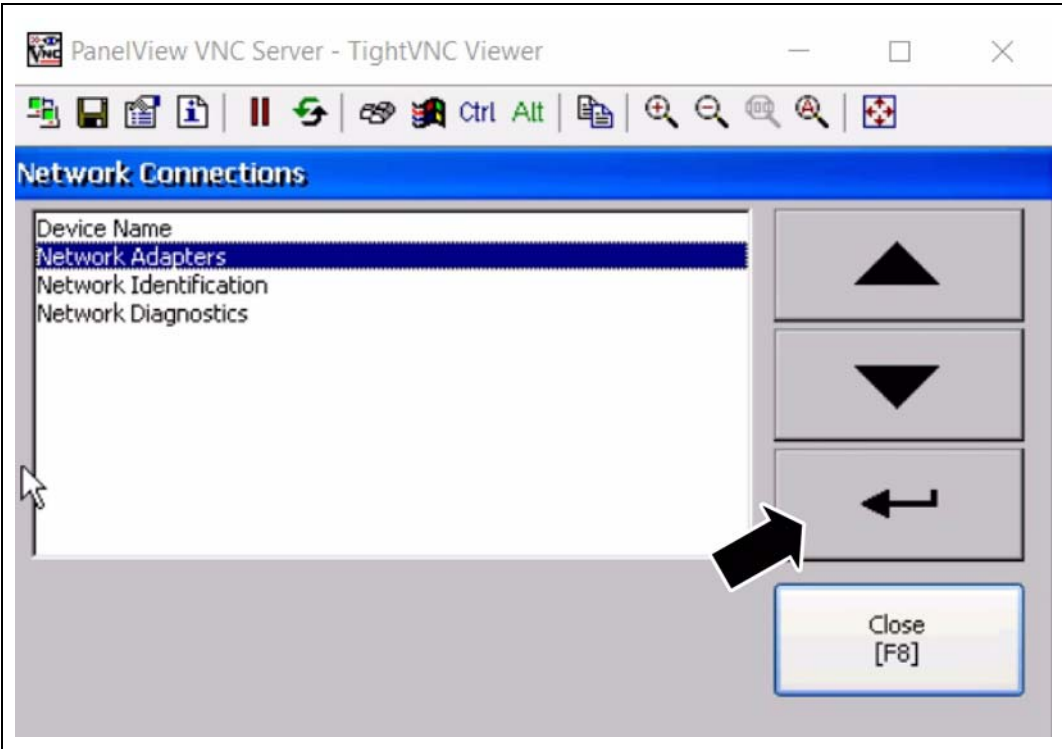

Figure 4D
4. Select Network Adapters and press Enter. You now have buttons to change the IP or DNS addresses for the PanelView. (See Figure 4D.)